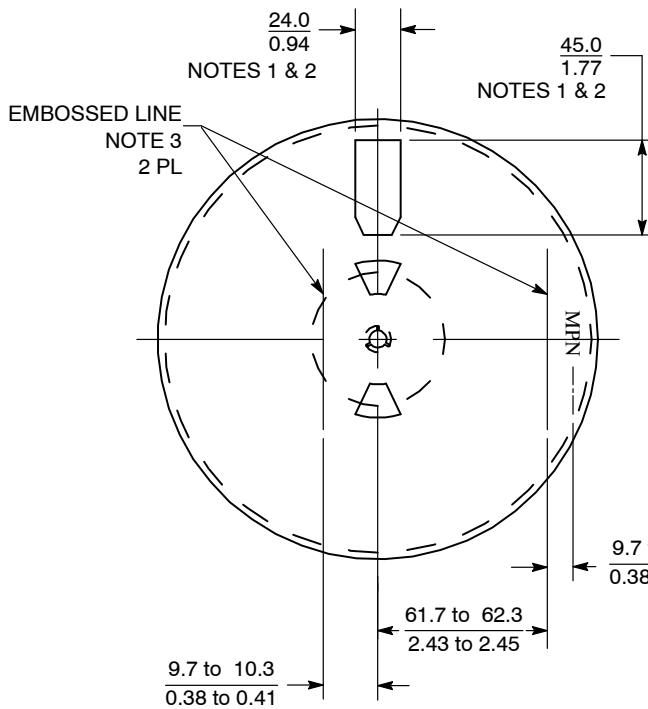

Figure 48. Front View of 178 mm (7.0 in) Reel
- If there are any flange openings on the front side of the 178 mm (7.00 in) reel they must be designed in locations so that two of the 41.3 mm (1.65 in) ON Semiconductor barcode labels can be applied parallel to each other as in Figure 48.
- Flange opening on the front and the back of the reel are a supplier option but must meet all of the requirements in Note 1. The preferred size for the 176 mm (7.0 in) reel is shown in Figure 48.
- The embossed lines on the reel are an option. If the lines are used they must be located as in Figure 48 and 49. They must be a minimum 38 mm (1.50 in) long. The thickness is a manufacturer's option and not to be used for inspection criteria.